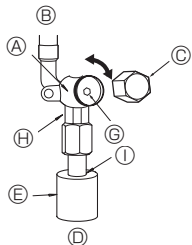

Fig. 4-5
(1) Gas side of P100-P140 (Fig. 4-5)